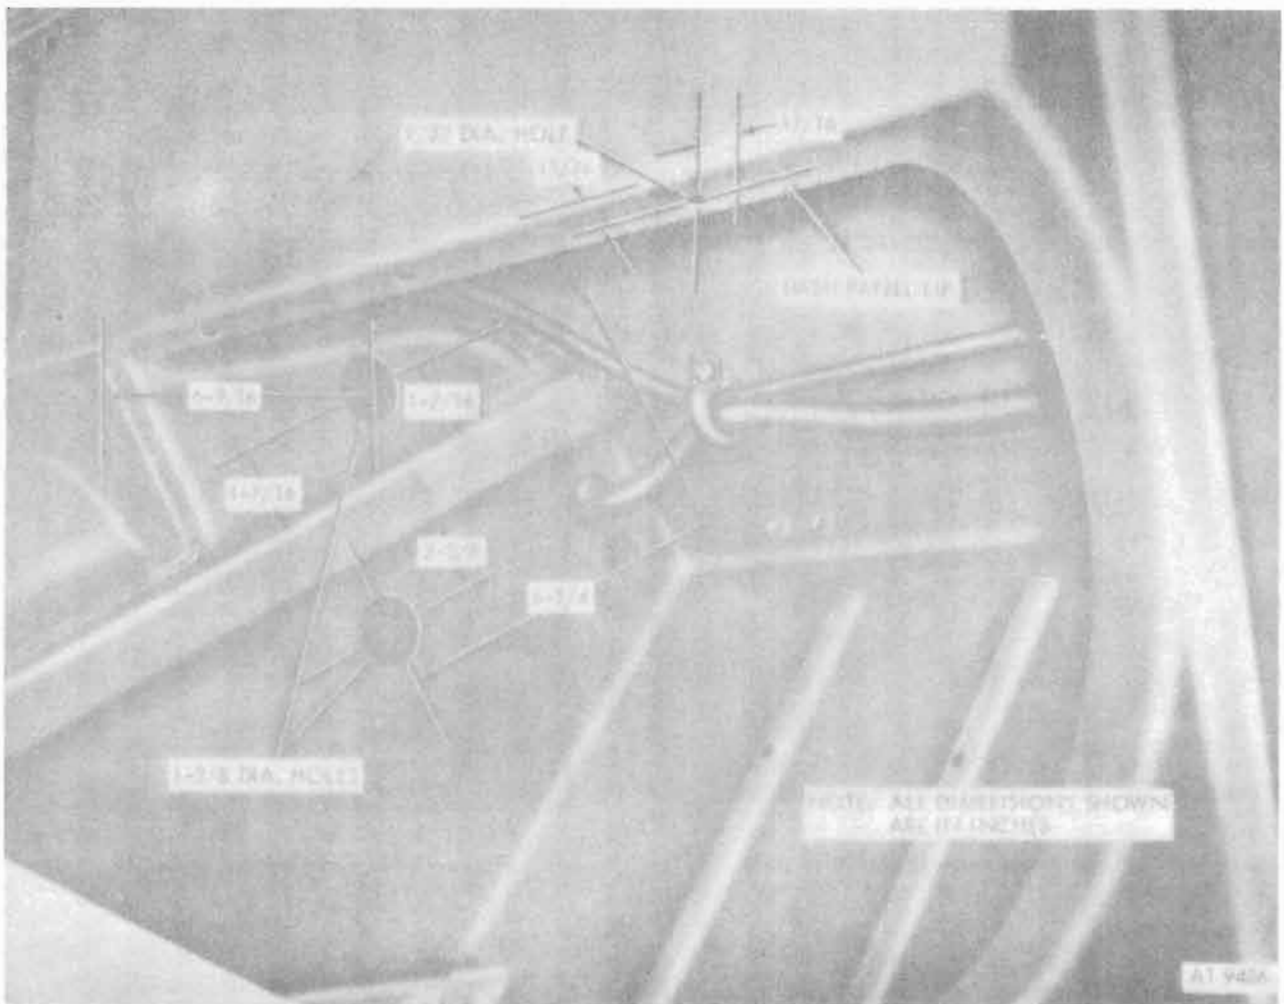

Figure 18-65. Right tunnel panel and dash panel drilling.
- d. Locate and cut two 1 3/8-inch diameter holes in right tunnel panel (fig. 18-65).
- e. Locate and drill a 9/32-inch diameter hole as shown in lip of dash panel (fig. 18-65).